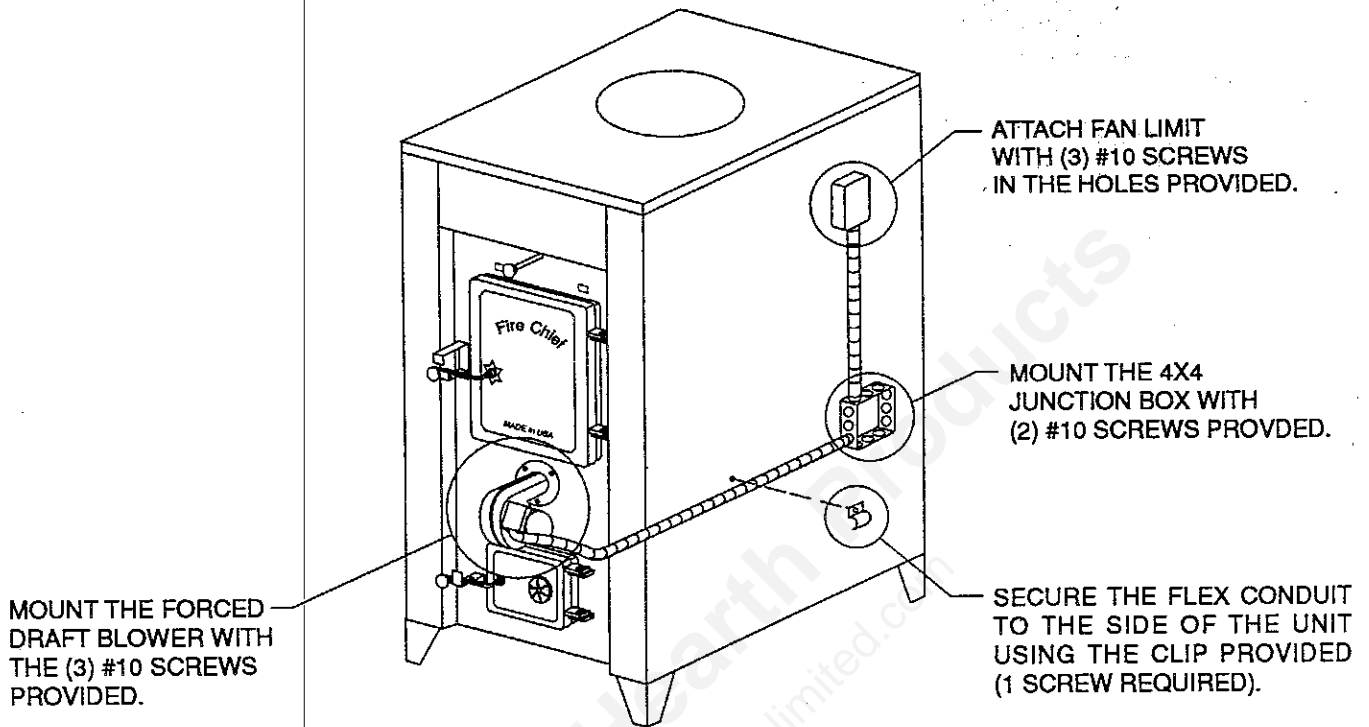

Figure 3
- 3.) Attach forced draft motor to front of furnace using 3 - #10 screws. (Figure 3, page 5)
- 4.) Position 3/8" conduit clip to the pre-punched hole on the side of the unit as shown in Figure 3, page 5. Also attach the 4x4 junction box to the right side of the unit using 2 - #10 screws provided in the parts bag. (See Figure 3).
- 5.) Fasten Fan Limit control to the right side of the unit with 3 - #10 screws using pre-punched holes provided. (See Figure 3, page 5).